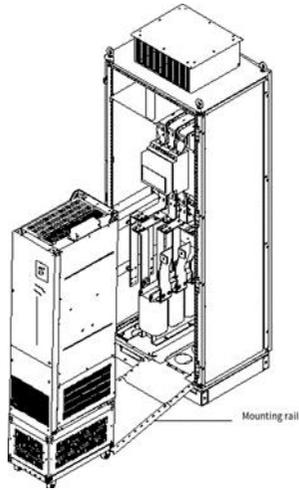
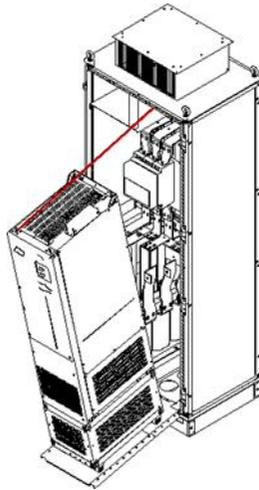

Figure 4-10
Figure 4-11
4	Align the casters of the frequency converter with the guide rail and push the inverter into the cabinet slowly (as shown in Figure 4-10 and Figure 4-11). During the installation, use the auxiliary strap to prevent the frequency converter from turning over during the process of pushing in or pulling out.
2. Secure the bottom mounting beam and mounting bracket, as shown in Figure 4-10.
As shown in Figure 4-11, assemble the corresponding model mounting guide rail, align the two hooks at the front end with the gap of the nine-fold profile, and clamp into it to ensure that the clamp is in place.